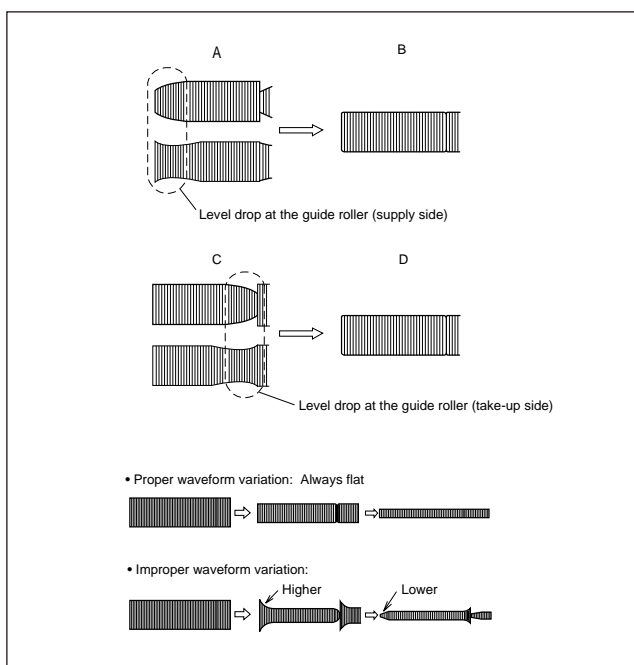

Fig. 2-3-1c
- (5) Reduce the V.PB FM waveform by the tracking operation. If a drop in level is found on the left side, turn the guide roller of the pole base assembly (supply side) with the roller driver to make the V.PB FM waveform linear. If a drop in level is on the right side, likewise turn the guide roller of the pole base assembly (take-up side) with the roller driver to make it linear. (See Fig. 2-3-1c.)
- (6) Make sure that the V.PB FM waveform varies in parallel and linearly with the tracking operation again. When required, perform fine-adjustment of the guide roller of the